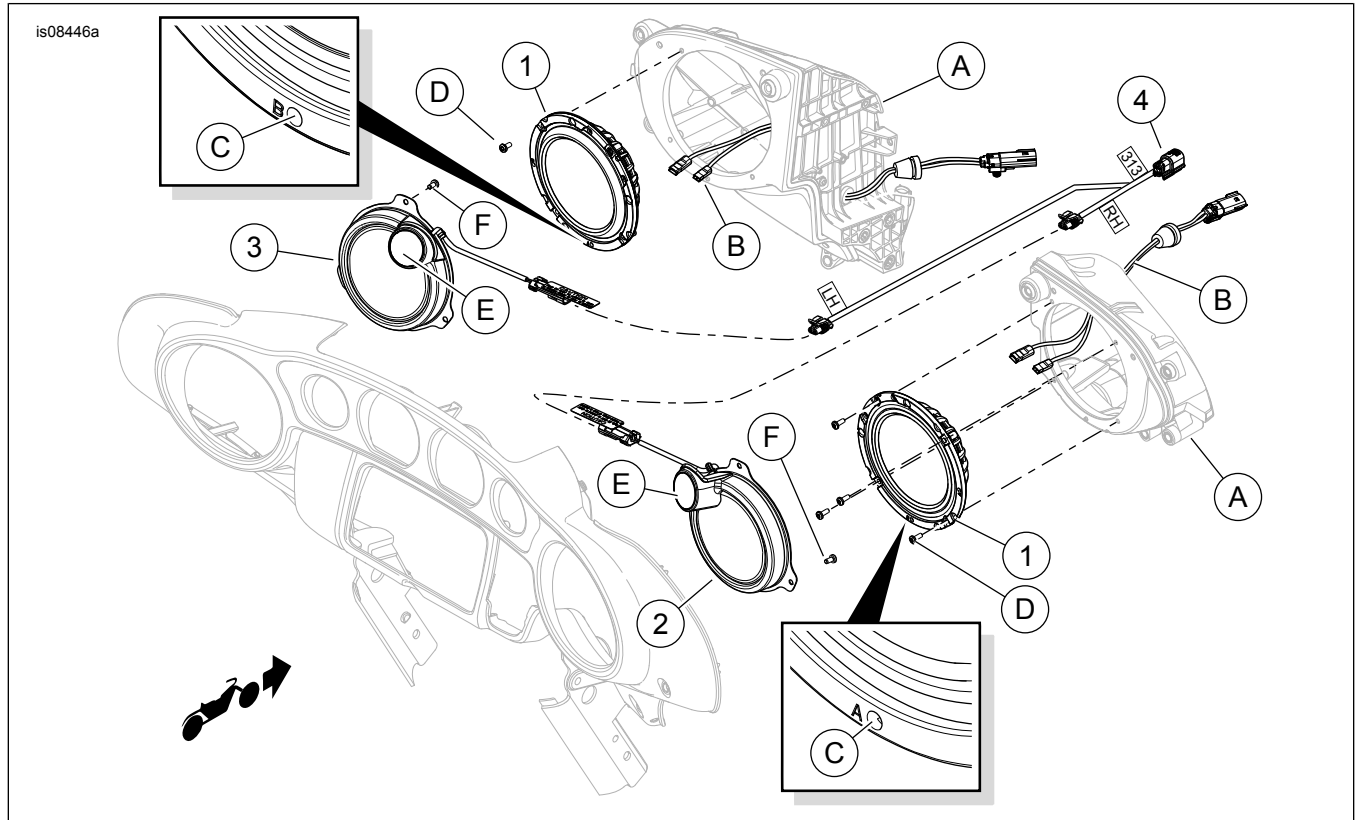

Figure 3. Service Parts, BOOM! Audio Stage II Fairing Speaker Kit (FLHT/FLHX Models)
See Figure 3. Attach the speaker jumper wire connectors (B) inside the speaker enclosure (A) to the spade terminals on the back of the **new** woofer (1). Different size spade contacts prevent improper assembly.
10. See Figure 3. Position the Y-harness (4) inside the fairing.
12. **ALL models except FLHTKSE:** Connect [313B] of the Y-harness (4) into the amplifier harness rear speaker output **socket** [313]. **FLHTKSE models:** Connect [313B] of the Y-harness (4) into the amplifier harness rear speaker output **socket** [162B].